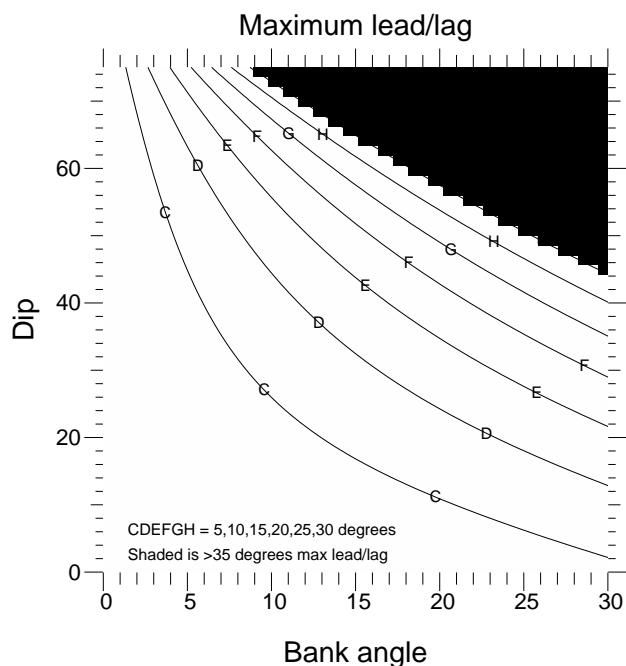

Figure 4: Contours of max lead/lag
- Determine (in advance) an appropriate maximum lead/lag for your location and standard rate bank angle. (See Figure 4)